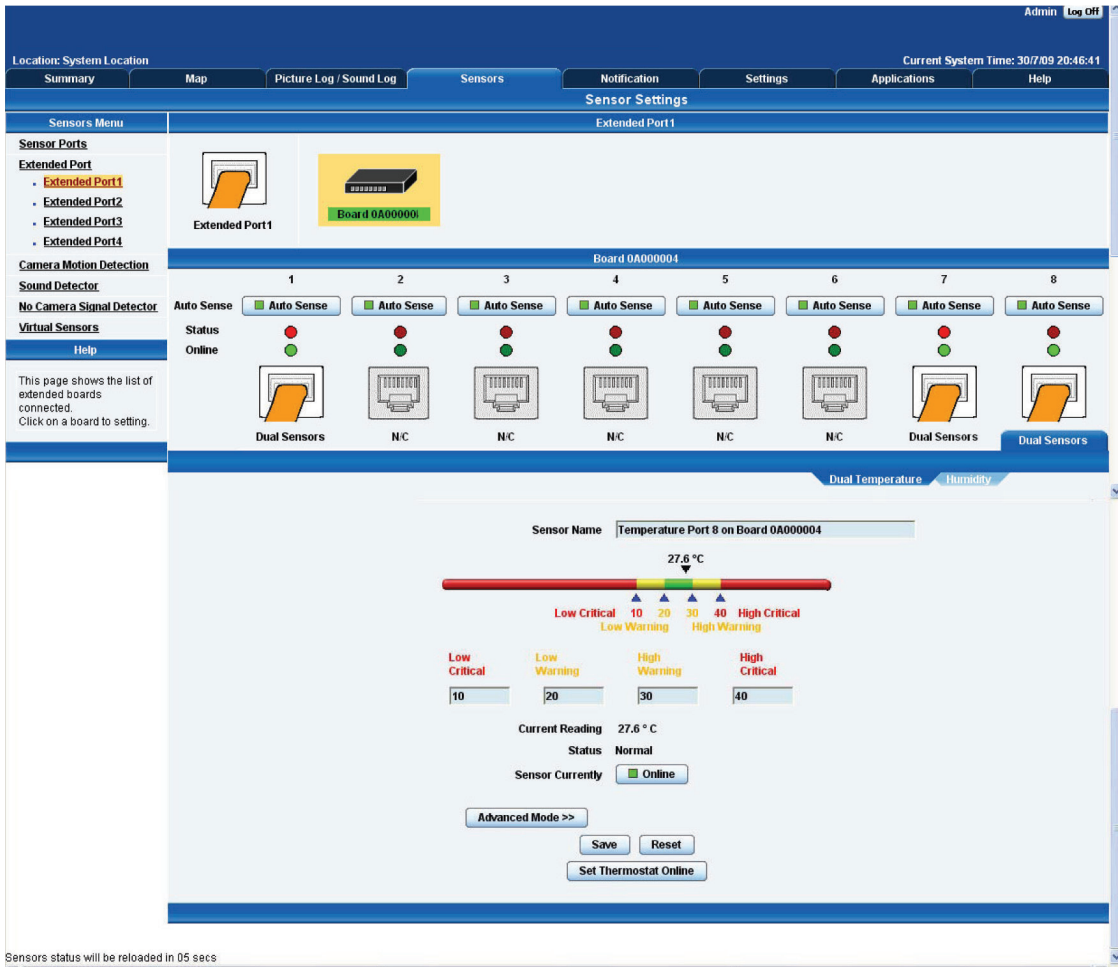

Figure 3-66. Notification thresholds page.
5. Once you have clicked on the "Dual sensors" tab, you will be directed to the Notification Thresholds page (see Figure 3-66). From this page, you can carry out various operations as indicated in the sensor settings tutorials.